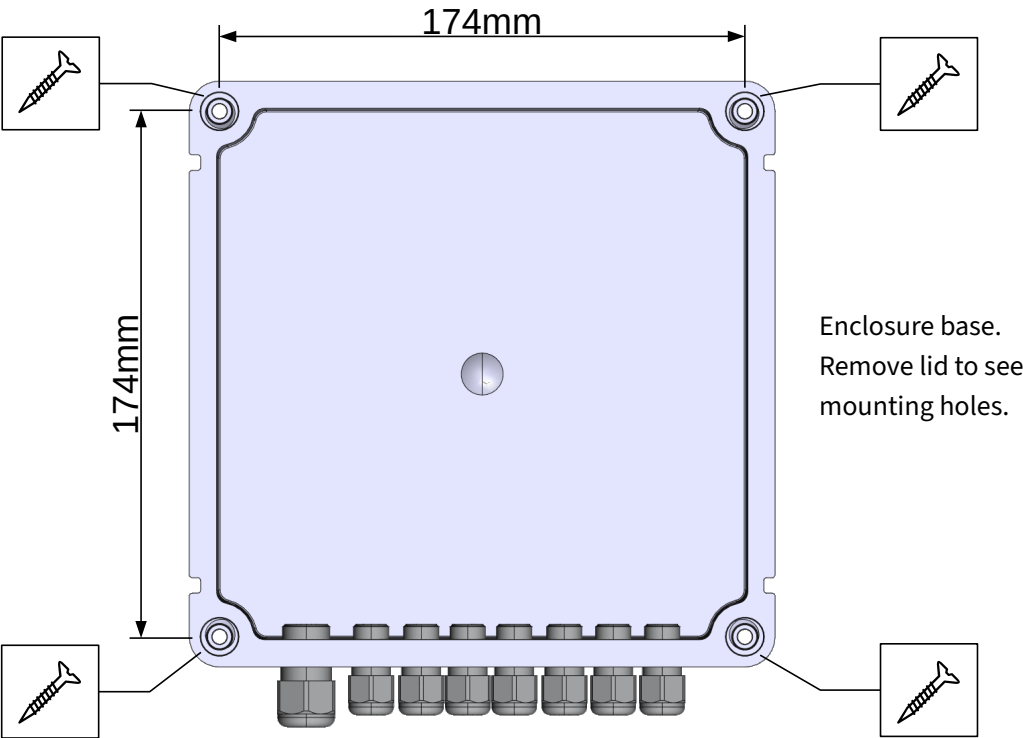

Figure 4: Enclosure mounting hole positions
- ⚠ Only use the mounting points shown in Figure 4. Do not drill holes in the enclosure or otherwise modify it as this would affect the IP65 rating and may allow water and/or moisture to enter the enclosure, affecting the correct function of the alarm and/or electrical safety, resulting in a potential electric shock hazard. It would also invalidate the ATEX/UKEX/IECEx certification.
- ⚠ The voltages used on all the relay output contacts must be similar, i.e. do not mix low voltage (ELV) and high voltage (LV).
2. Use the mounting points provided on the enclosure to mount in the position required. See Figure 4 for mounting points and dimensions.